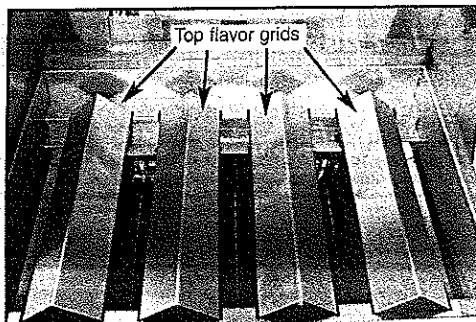

Fig. 13
2. Insert the second row of four Flavor Grids into cutouts with triangle ridges facing up. (See Fig. 13)